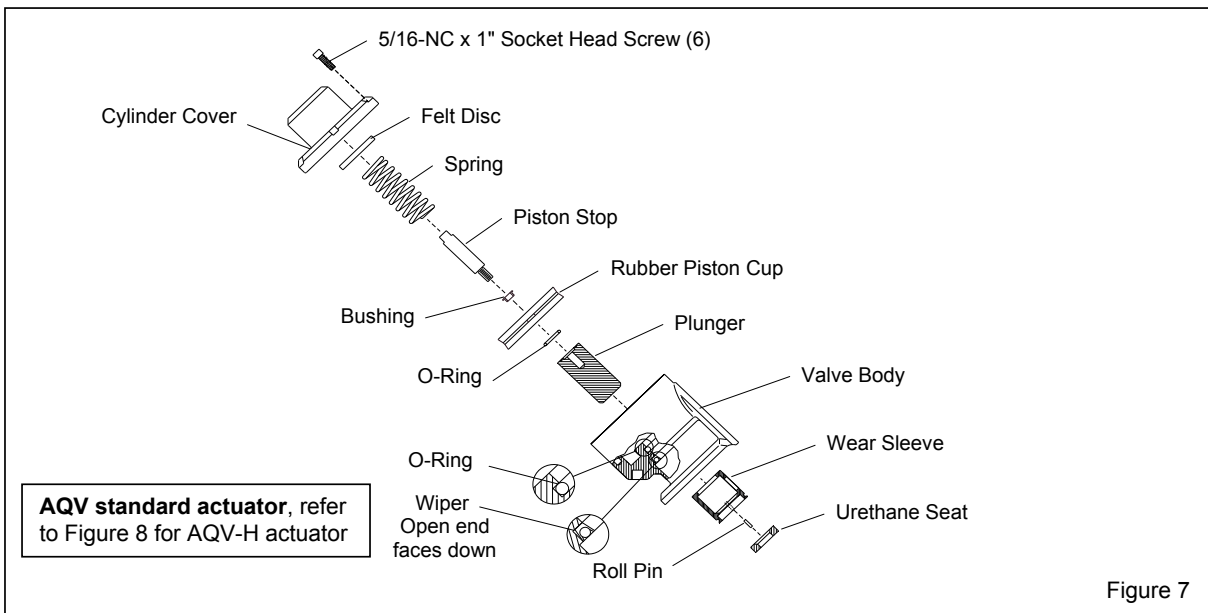

Figure 7
4.2.4 Refer to Figure 7 and unscrew the six socket head screws, and remove the cylinder cover and spring. Spring compression is relieved when the cover is approximately 9/16" from the actuator valve body.
4.2.9 It is not necessary to separate the plunger from the piston unless either part is scored or worn. To separate the parts, hold the plunger in a vise with the vise jaws covered with copper or similar protection (if the plunger is damaged it does not matter if the vise jaws mar the plunger). Using a wrench placed on the flats of the piston stop, unscrew the stop. **NOTE: if the piston is aluminum, replace it with the rubber piston-cup and bushing. The bushing flange must be placed as shown in Figure 7, on the top side of the piston-cup, facing toward the piston stop.**
4.2.14 If the plunger and piston were separated as noted in Section 4.2.9, apply removable thread sealant to the threads on the piston stop and reassemble the parts using a new o-ring. **Make sure the bushing is installed in the piston as shown in Figure 7.**
4.2.15 Replace the wiper and o-ring in the actuator body; the o-ring side of the wiper must face toward the bottom of the body as shown in Figure 7.